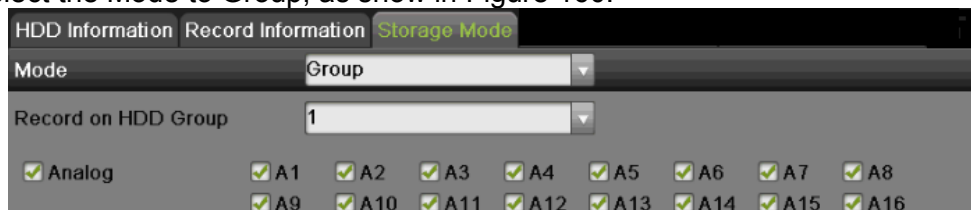

Figure 160 Group Mode Settings Menu
3. Select the Mode to Group, as show in Figure 160.